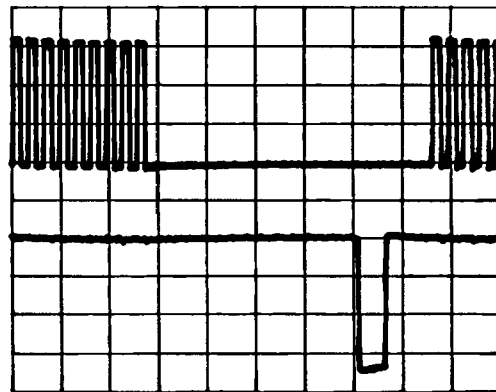

**Figure 8-33. XA2A11A-19, CYCLE**
9. Connect channel 2 of the oscilloscope to XA2A11A-19, CYCLE. The waveform should be as shown in figure 8-33.